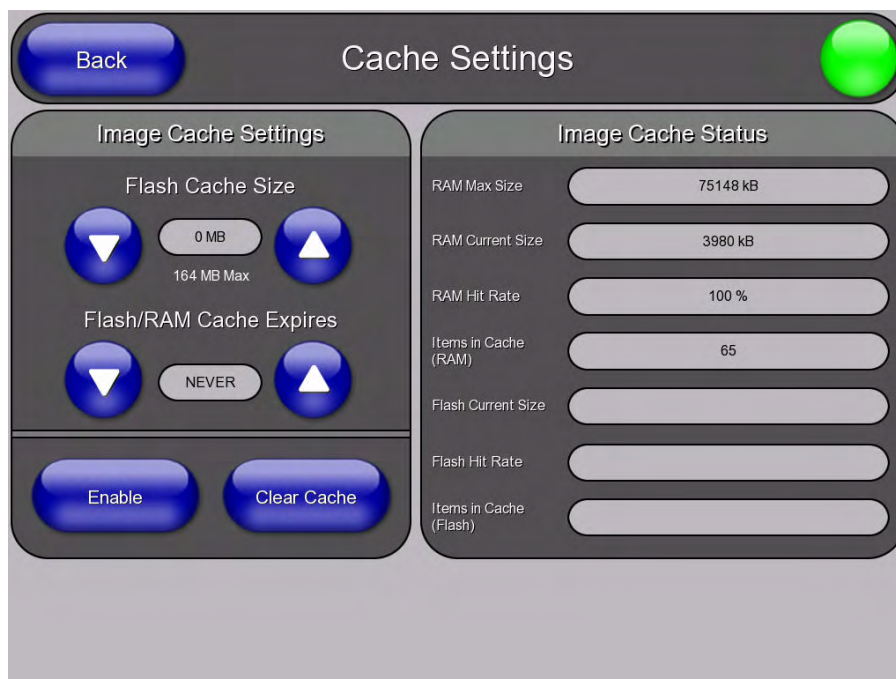

FIG. 74 Protected Setup (Other Settings) - Cache Page
- **Cache** - Press to access the *Cache Page* (FIG. 74)
Select **Cache** from the *Other Settings* slider to access the *Cache Page* (FIG. 74):